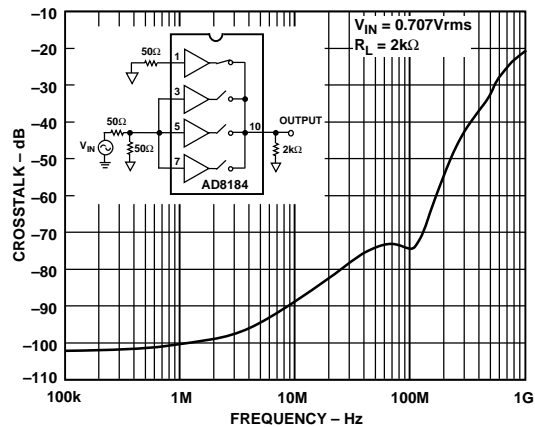

Figure 12. All-Hostile Crosstalk vs. Frequency
- 6Select an input that is not being driven (i.e., A0 and A1 are logic 0, IN0 is selected); drive all other inputs with  $V_{IN} = 0.707$  V rms and monitor the output at  $f = 5$  and 30 MHz.  $R_L = 2$  k $\Omega$  (see Figure 12).